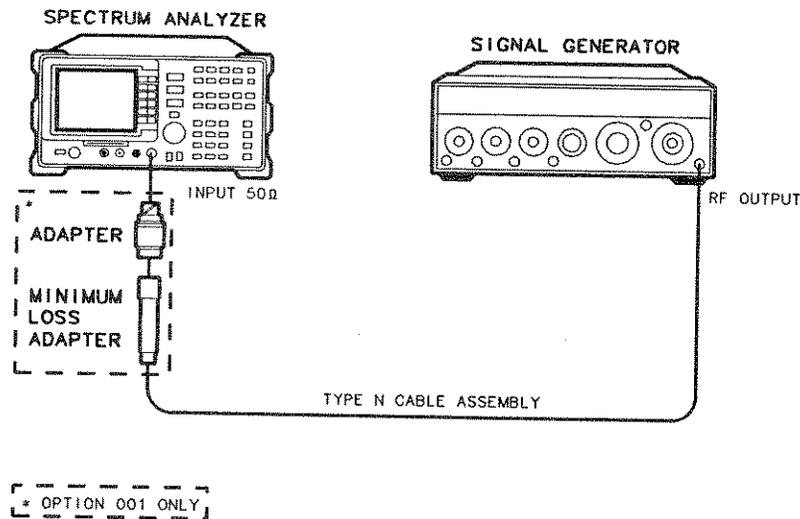

Figure 3-5. System Related Sidebands Test Setup
2. Connect the equipment as shown in Figure 3-5.